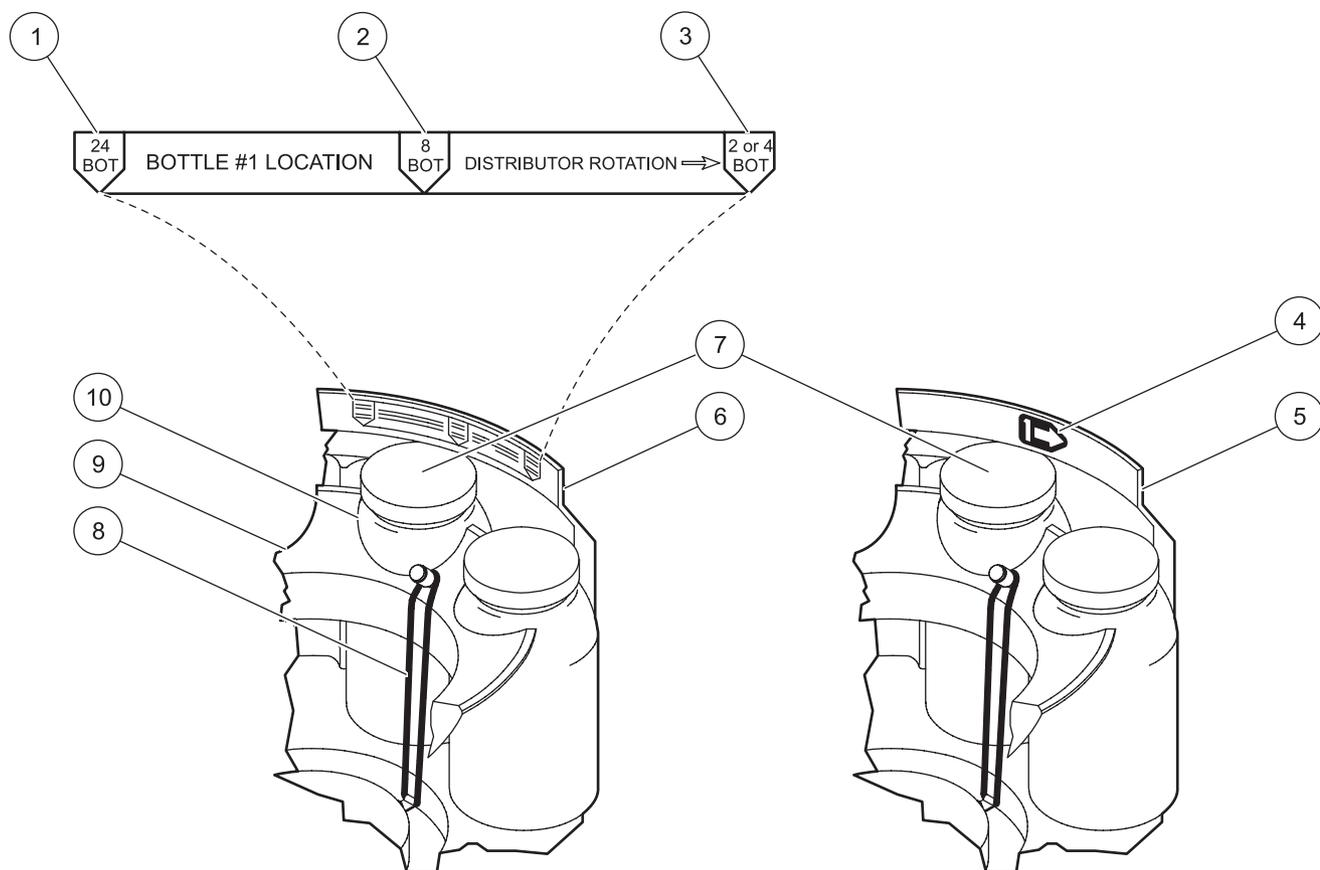
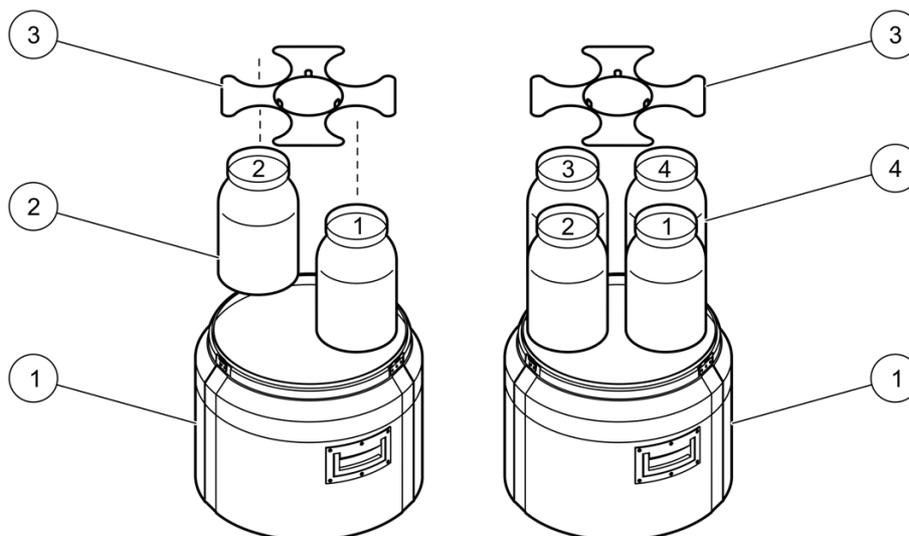

Figure 8 Bottle number 1 location
Figure 9 Two and four bottle installation
Position the first sample bottle (number 1) under the label in the sampler base (see Figure 8). Place the remaining bottles in increasing number in the direction indicated by the label.
2. Place the bottles in the base as shown in Figure 9. Arrange the bottles so that the first bottle is located under the label at the point marked 2 or 4 BOT (Figure 8 on page 24).
3. Place the retainer over the bottles with the knobs pointing up. Secure with the straps (Figure 9).
- Place the bottles in the base (see Figure 8 on page 24):
- Compact base: arrange the bottles so that the first bottle is located under the arrow label (Figure 8 on page 24).
- Standard base: arrange the bottles so that the first bottle is located under the label marked 24 BOT (Figure 8 on page 24).